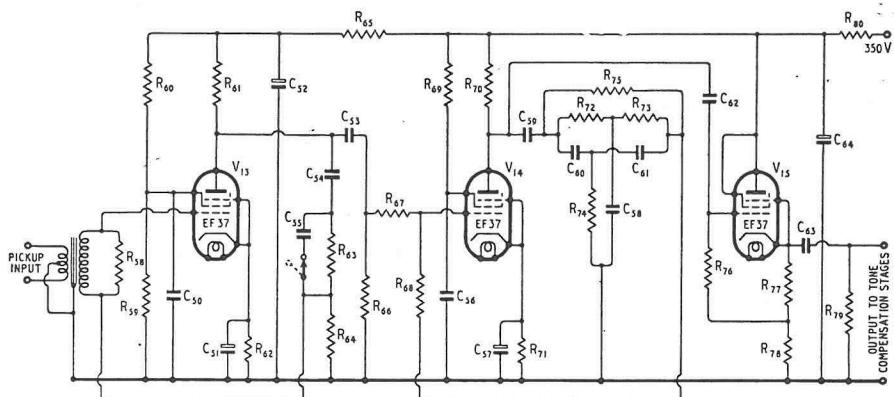
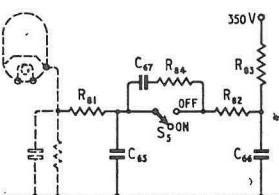

Fig. 15. Pre-amplifier with high-pass filter.
Fig. 18. Circuit of fading control.
A more complex circuit, which gives nearly perfect compensation and a very rapid attenuation (30 db/octave) below 20 c/s, is shown in Fig. 15. This pre-amplifier has a higher gain than the previous one, and is particularly suitable for use in equipment where the pickup is located at some distance from the rest of the amplifier as the circuit terminates in a cathode follower.
**Fading Control.**—The circuits of Figs. 13 and 15 have no provision for electrical fading. Fig. 18 shows a network which, when connected to the cathode of V8 in Fig. 13 or V13 in Fig. 15, enables the gain to be reduced to zero in about a second when the switch S5 is closed. On opening S5 the gain is restored to its normal value in a similar period.
(Fig. 13) has a gain of 11 at 1,000 c/s. Thus, when this unit is used, full output may be obtained with a pickup which produces 18 mV peak. Should it be required to use the system with an insensitive microphone, disconnection of C14 in Fig. 13 will raise the gain of the stage to about 150, with a sensibly linear frequency response. Full output will then be obtained with an input of 1.3 mV peak. The more complex pickup pre-amplifier (Fig. 15) has a gain of approximately 250.
Component Values for Circuit of Fig. 15.
#### List of Components for Fig. 18.